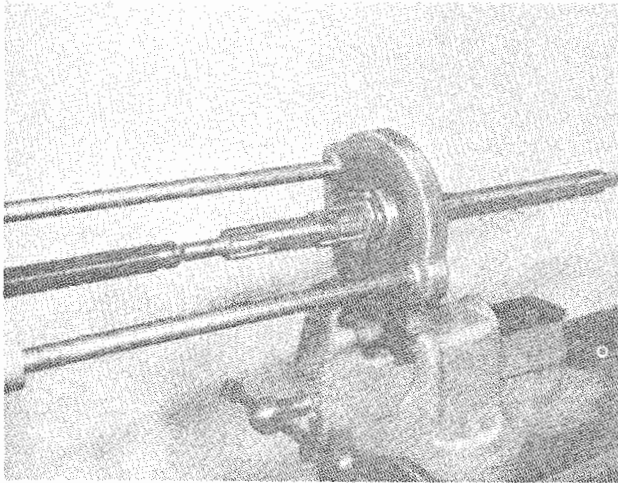

Fig. 16 Fitting Mainshaft Centre Bearing with Churchill Press No. S4221 and Adapter from Set No. S4615.
- (ii) Press ball race on to mainshaft with Churchill fixture as shown in Fig. 16. Then fit the thrust washer